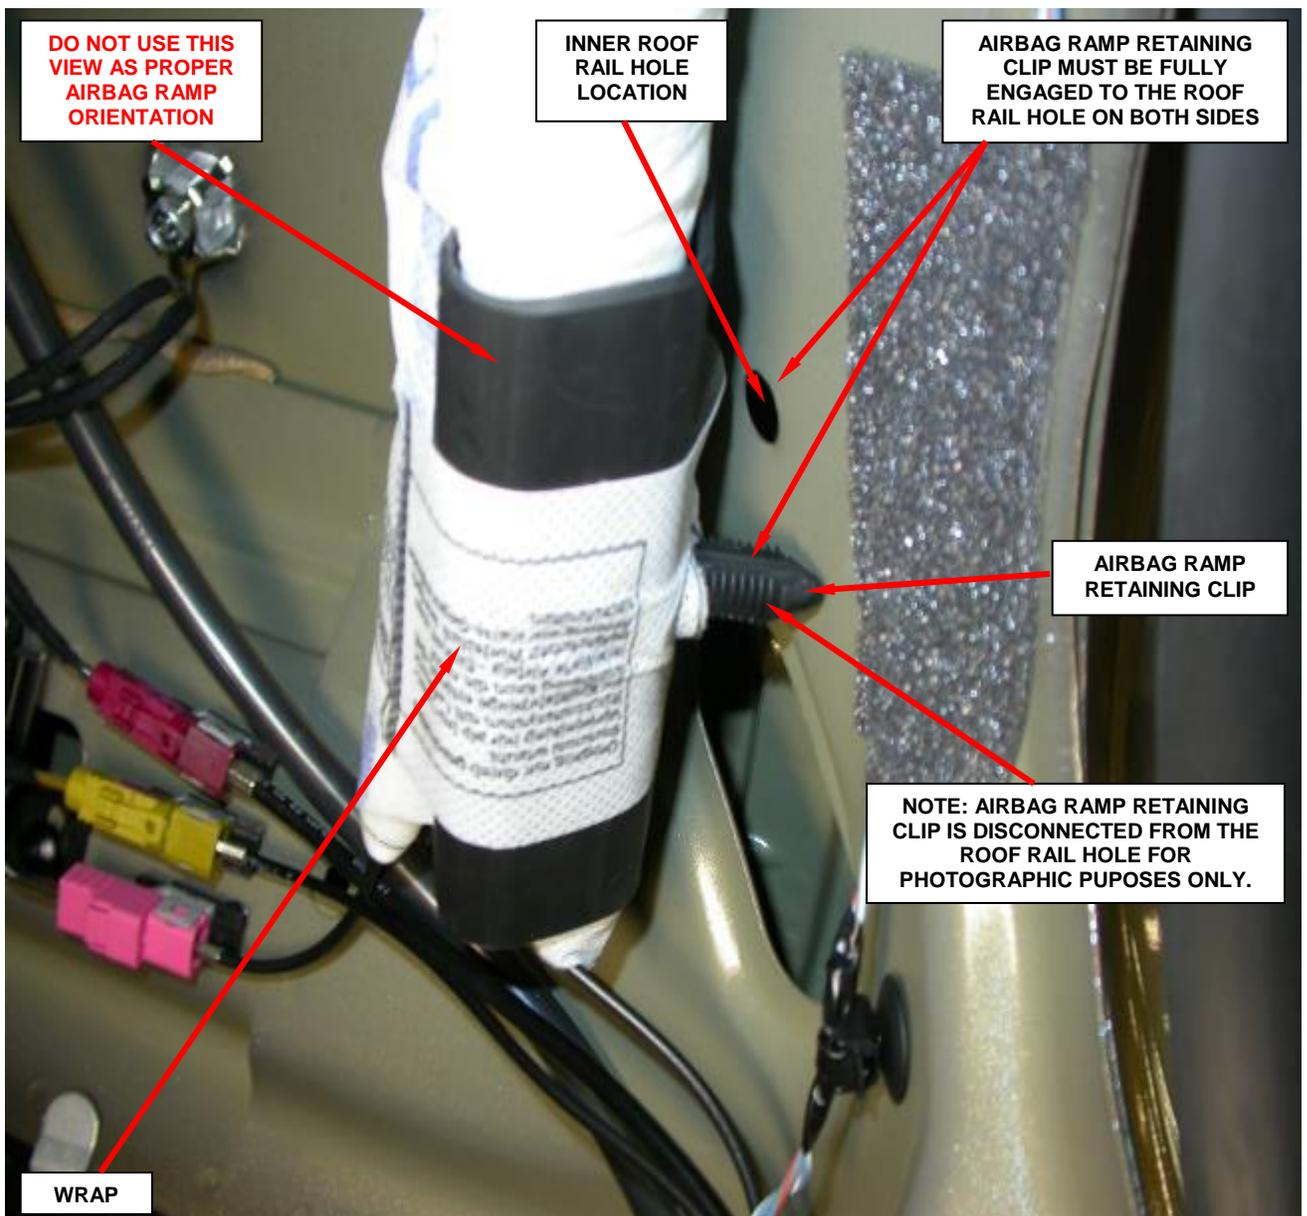

Figure 24 – Airbag Ramp Position (Left Side Shown)
2. Inspect the airbag ramp retaining clip on the right and left side SABIC modules. Ensure the airbag ramp retaining clip is fully engaged to the inner roof rail hole (Figure 24).